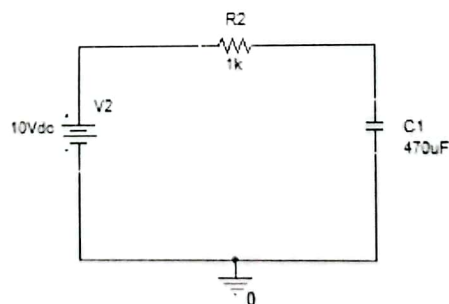

Figure 1.10: Schematic for RC Circuit
For example: Consider the RC circuit in Figure 1.10, whose voltage source provides:
1. Using Figure 1.10 with  $V_{in} = 10V$ ,  $R = 27k\Omega$ , and  $C = 470\mu F$ , calculate the time constant and record it in Table 1.5.